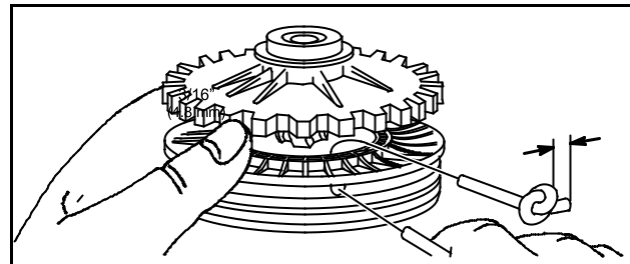
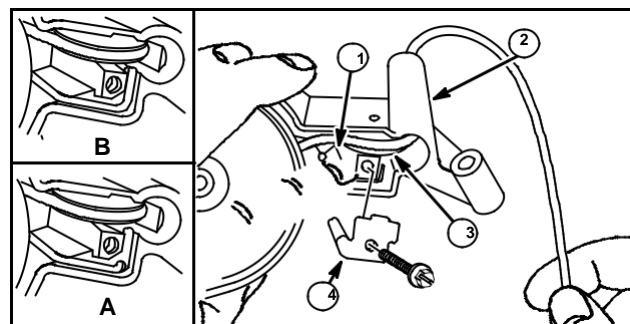

Fig. 59
Fig. 60
2. Tie a small knot, heat seal and pull tight into recess in rope pulley. Maximum size shown. Rope must not interfere with gear motion, Fig. 59.
3. Install pulley and gear assembly in housing, with link (1) in pocket or hole of casting, as shown. Inset "A" shows current style link, "B" shows alternate style.
4. Install small pulley (3), rope pulley pin, and rope guides (2, 4), Fig. 60.